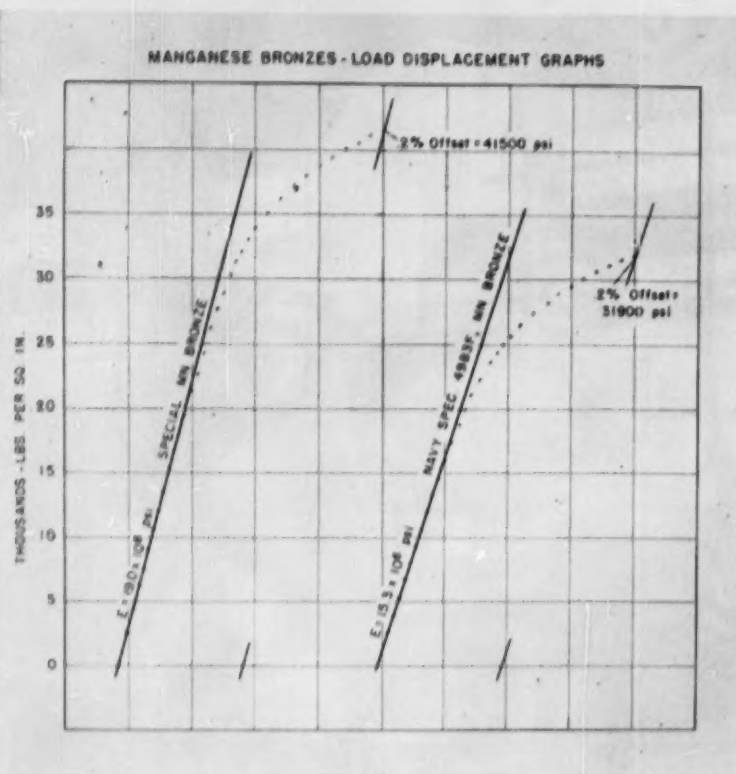
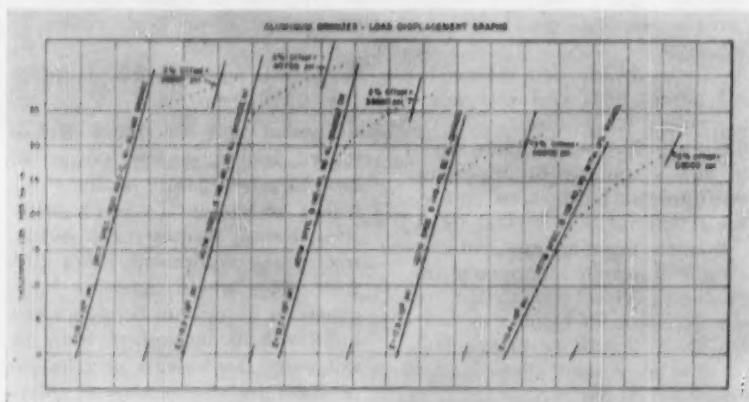

Fig. 5 . . Strength and stiffness of Table 5 compositions 61 and 62.
Fig. 6 . . Table 5 compositions 3 to 7 are identifiable by E values.
Figure 5 charts the strength and stiffness of a special manganese bronze composition compared with a propeller-type manganese bronze. The addition of 5 per cent nickel and 5 per cent aluminum, with a substantial reduction in the zinc content, raised the yield strength and elastic modulus considerably. Deformation measured with a Ber-
Table 5 summarizes the tensile properties of some of the manganese and aluminum bronzes whose corrosion rates are shown in Fig. 1 and 2. Figure 6 shows that the nickel-free aluminum bronze (Alloy No. 5 of Table 5) had a modulus of about 11,000,000 psi while the nickel-alloyed types developed 18-19,000,000 psi. The propeller-type manganese bronze in Fig. 5 developed approximately 15,000,000 psi. Tests showed that a 20 to 30 per cent increase in yield strength could be developed in aluminum bronzes when additions of 5 per cent nickel were made to the tougher and lower aluminum-content types of this alloy. Stress-strain curves for Alloy No. 5 Table 5, con-
*Figures 5 and 6 plotted for .20 per cent Offset.
Compositions and properties of the seven alloys described in Fig. 5 and 6 appear in Table 5. This table records yield strengths at 0.5 per cent offset, whereas Fig. 5 and 6 show the values for 0.2 per cent offset; the difference is not impressive. Alloy No. 7, which is preferred for propellers at this time, possesses an ample margin in excess of the 80,000 psi minimum tensile strength and 15 per cent minimum elongation specified. For test results upon two separately made 18-ft diameter propellers of nickel-aluminum bronze see Table 6.